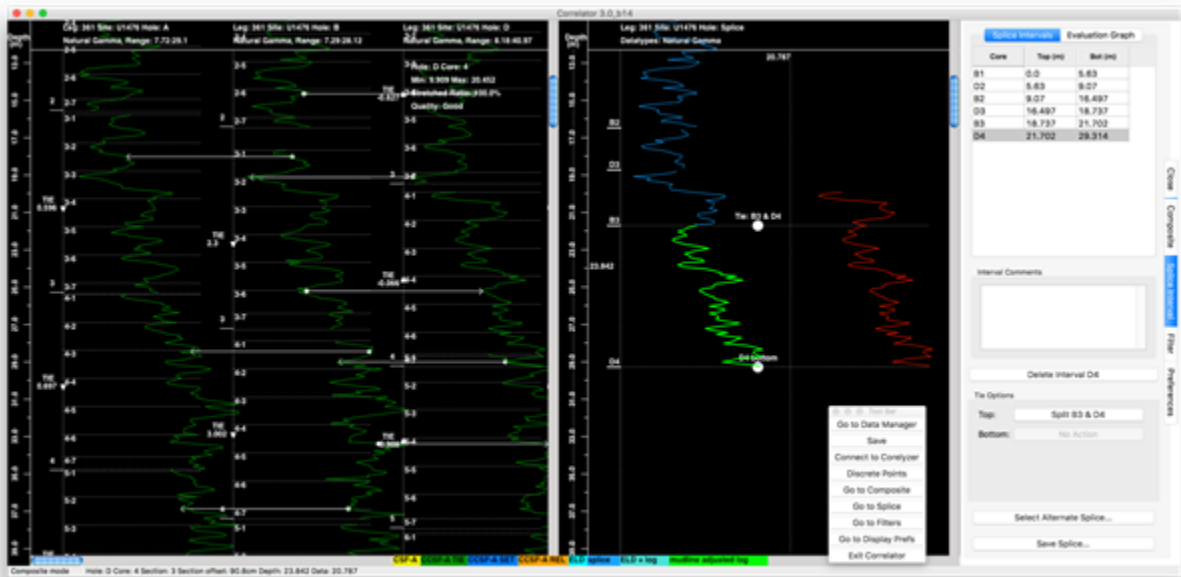

Figure 4-22. Drag the upper interval boundary up to desired splice depth. Compare with previous figure.
- To move the splice interval boundaries to the desired depth, drag or arrow the boundary button up (Fig. 4-22).
- For each addition of a core to the splice, a record will be added to the Splice Intervals table on the control panel, which is a short form of the formal splice interval table that will ultimately be saved. The table has the following three columns (Fig. 4-22):
- Note the labels at the top and bottom splice interval boundaries, respectively, on the splice plot (Fig. 4-22):